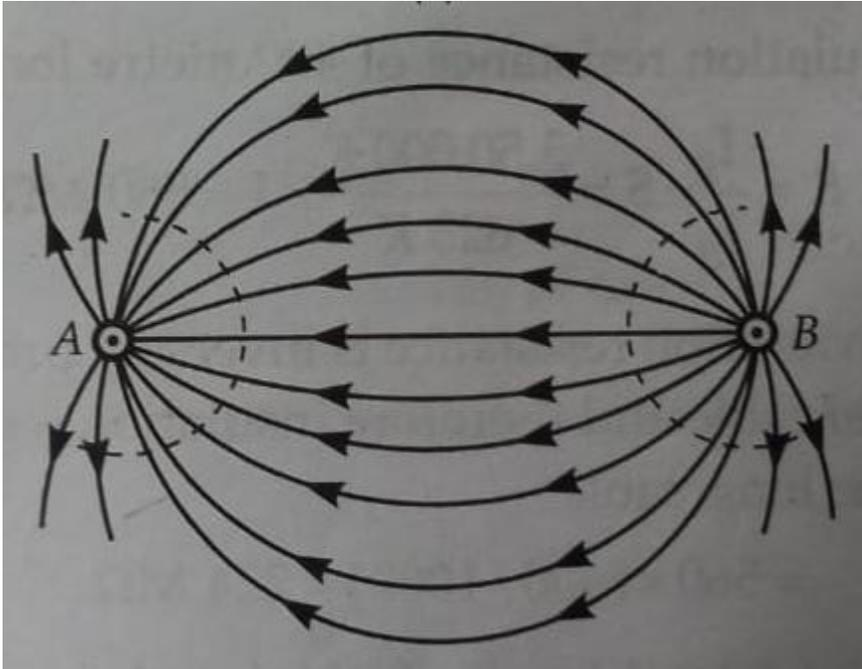

Fig. No.2 Flow of ground current
- The Flow of ground current is shown in Fig. No.2.